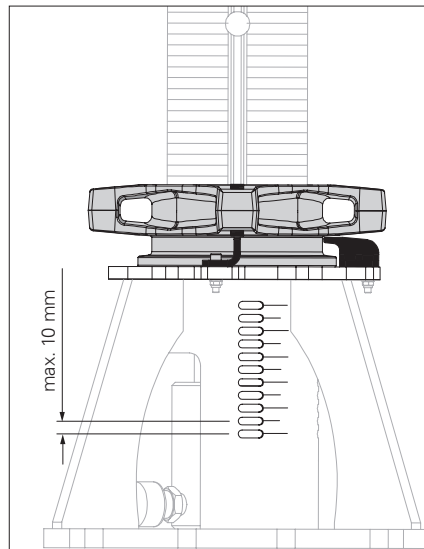

Fig. A5.08
- This corresponds to the spacing of the slots in the lowering jack. (Fig. A5.08)